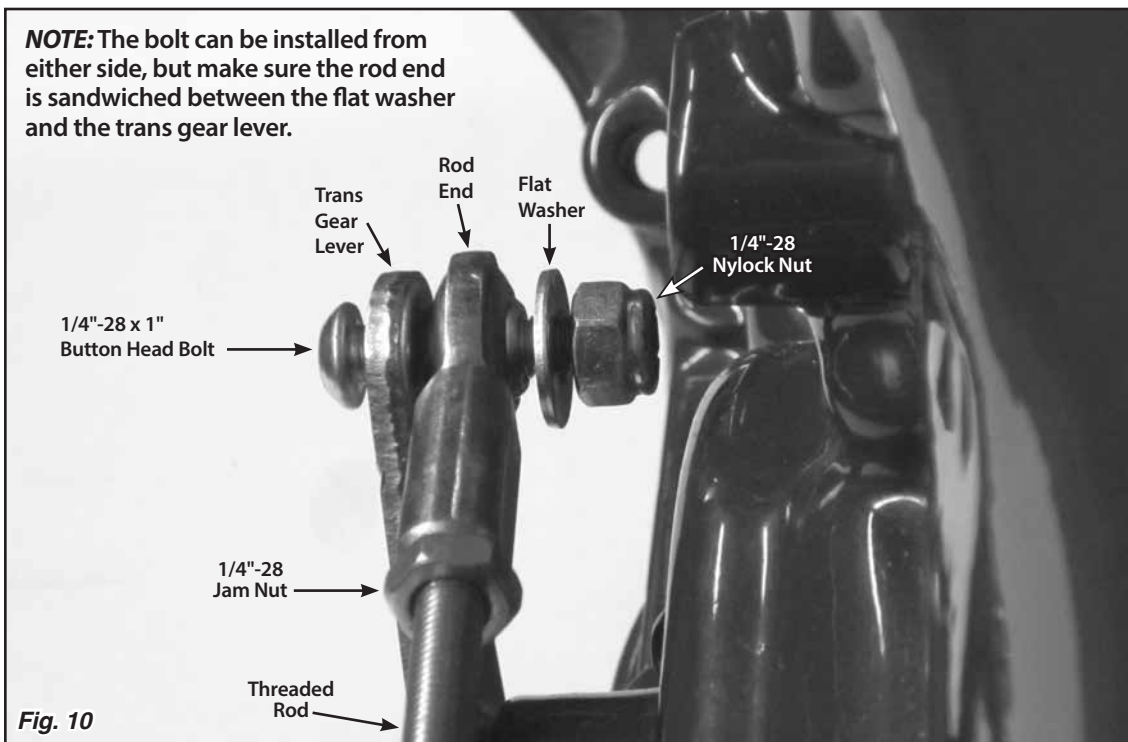

Fig. 10
Step 14: Verify that both 1/4"-28 jam nuts are on the threaded rod, and install a rod end onto each end of the threaded rod. Attach the threaded rod assembly to the **inside** of the trans gear lever and to the **outside** of the quad lever using the 1/4"-28 x 1" button head bolts, flat washers, and nylock nuts as shown in **Fig. 9** and **Fig. 10**. The button head bolts can be installed from either direction, but make sure the rod end is sandwiched between the flat washer and the trans gear lever or quad lever.